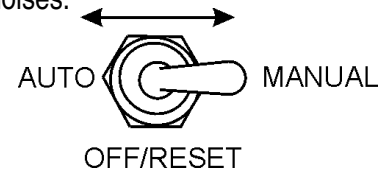

Figure 63. Auto-Off/Reset-Manual Switch
23. Place the Auto-Off/Reset-Manual switch in the **“Manual”** position to start the engine (Figure 63). Once the engine starts, let the engine run for 1-2 minutes. Listen for any abnormal noises.